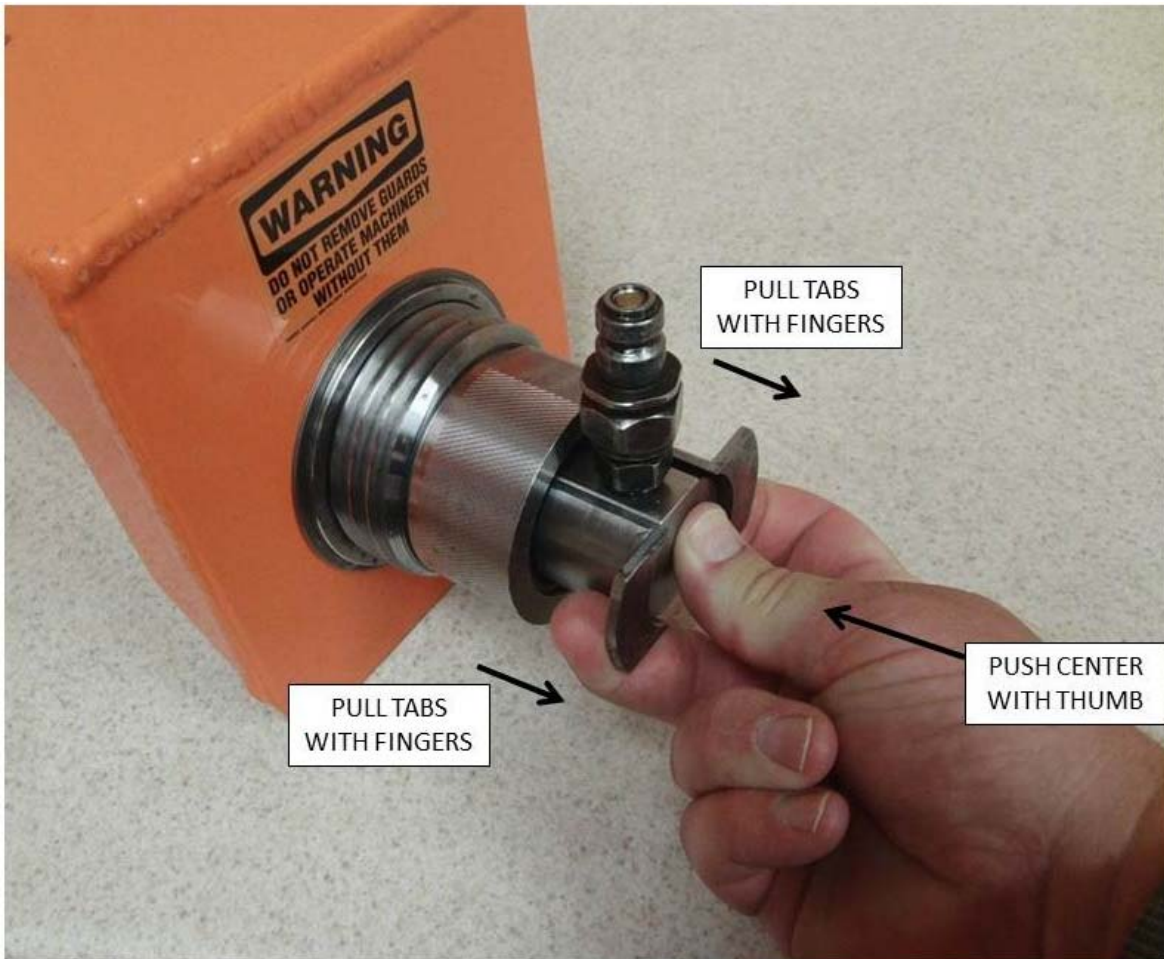

Figure 5 - Activation of custom connector
13. Activate custom connector from rear of guard by pushing on the center with your thumb and pulling the tabs with your fore finger and middle finger. Push the assembly forward until it locks onto the tensioner. Release fingers from tabs and then remove thumb. Ensure connection is firmly engaged or else the tensioner will not be connected to pump. (Figure 5)